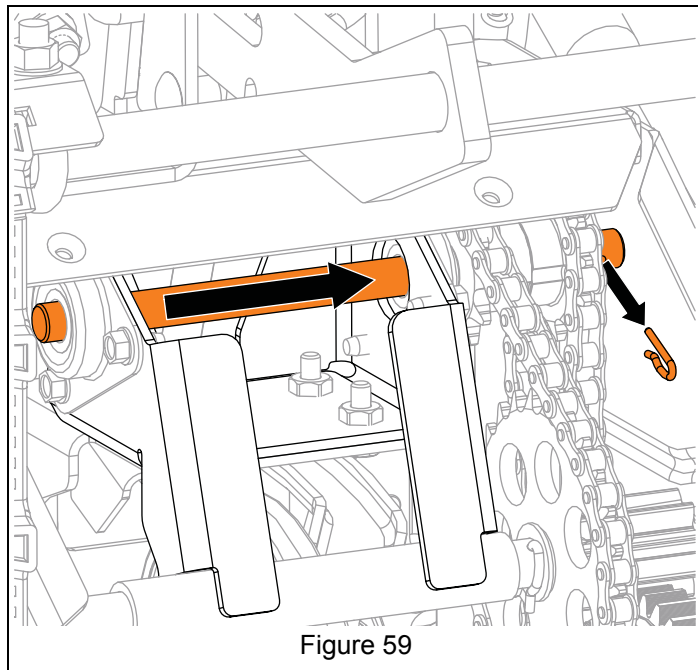

Figure 59
5. Position reduction shaft as far to the right side of unit as possible and remove spring clip from shaft. See Figure 59.